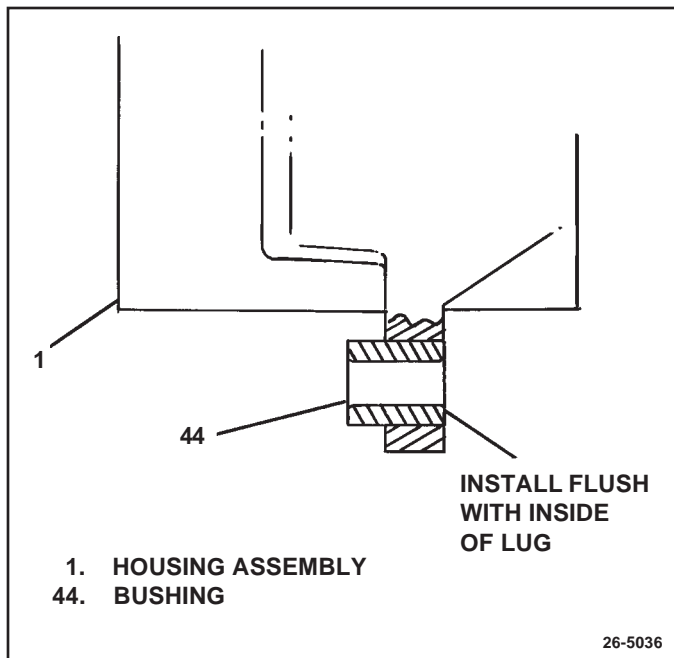

Figure 31. Installing Slip Bushing
Lightly lubricate outside surface of hinge bushing (44). Press hinge bushing into hole in lug on rectifier end housing (1). Install bushing flush with inside of lug to allow maximum distance between two hinge lugs for mounting. Final position of hinge bushing will be adjusted during mounting. (See Fig. 31)